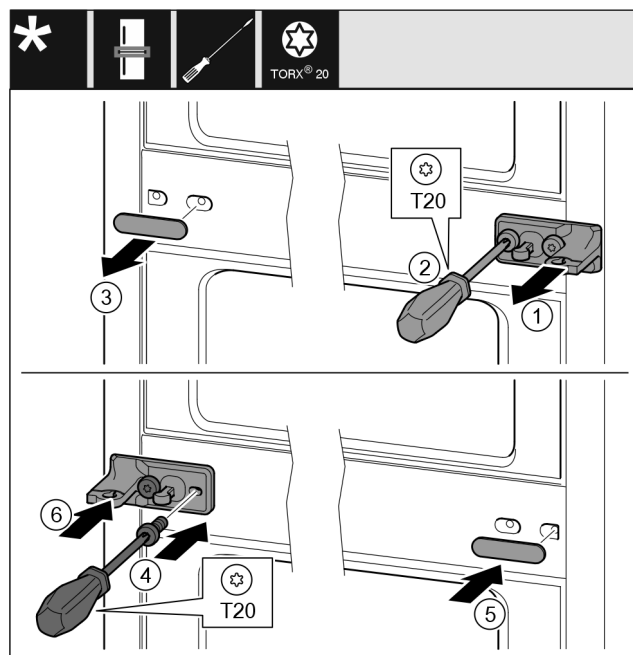

Fig. 33
- ▶ Take off the washer. Fig. 33 (1)
- ▶ Remove the screws with a T20 screwdriver. Fig. 33 (2)
- ▶ Take off the cover carefully. Fig. 33 (3)
- ▶ Screw the bearing bracket and the film rotated 180° firmly onto the other side. Fig. 33 (4)
- ▶ Attach the cover rotated 180° onto the other side. Fig. 33 (5)
- ▶ Push the washer on from the front. Fig. 33 (6)